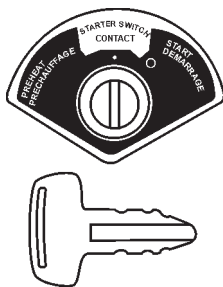

Figure 11. Ignition Switch and Key
5. Insert the **ignition key** into the ignition switch, (Figure 11).